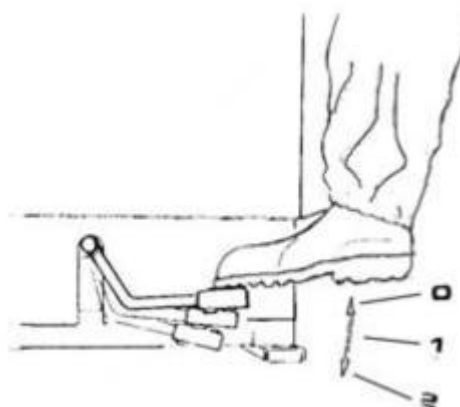

Fig 10
- a) Press the inflation pedal to its middle position (position 1 in Fig 10)
- b) Press the inflation pedal completely down (position 2 in Fig 10)